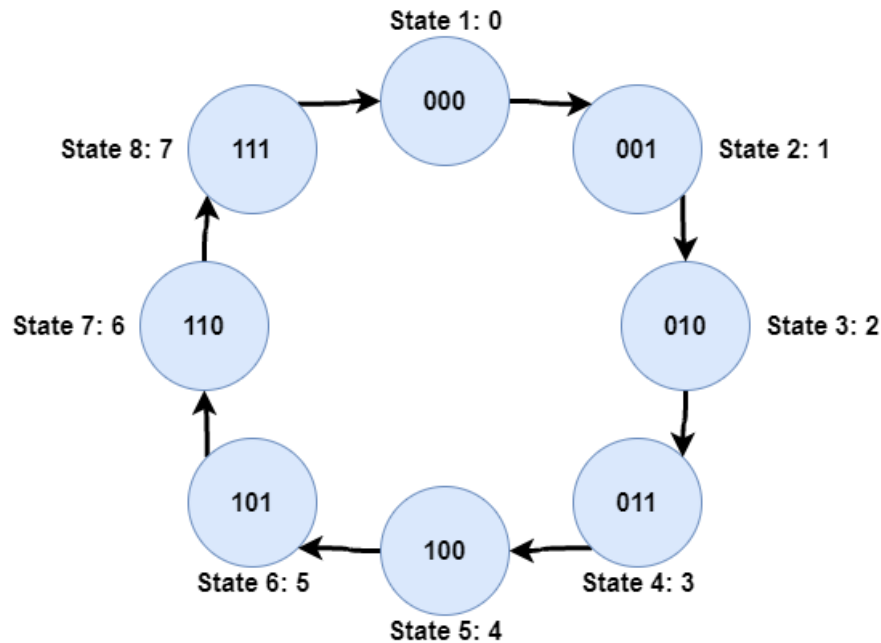

Figure 4: State diagram for 3-bit counter.
First, we need to draw a state diagram illustrating the sequence of states and the transitions. In Figure 4, you can see a completed state diagram for this specific example, showing each node with a specific label and arrows to represent the transitions.
- Draw, on paper, a state diagram like the ones shown in figures 4 and 2 for your motor drive state machine to follow the sequence charge→forward→reverse and repeat the cycle. Remember to label each node/state in your diagram with an appropriate name describing its function and include the binary data corresponding to each state.